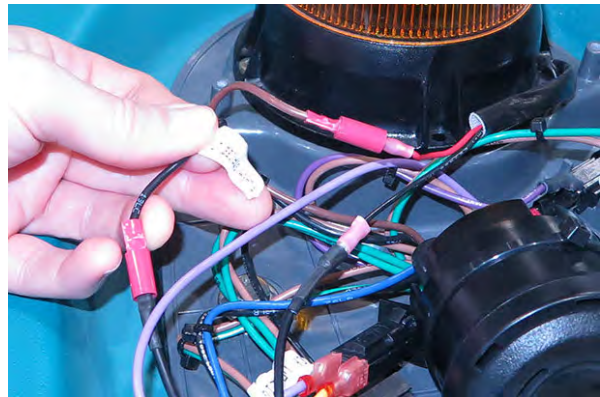
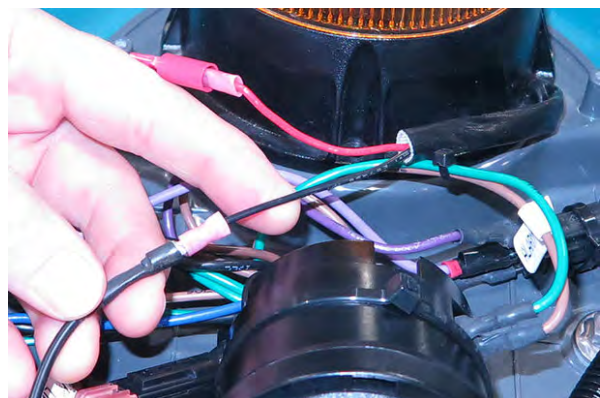
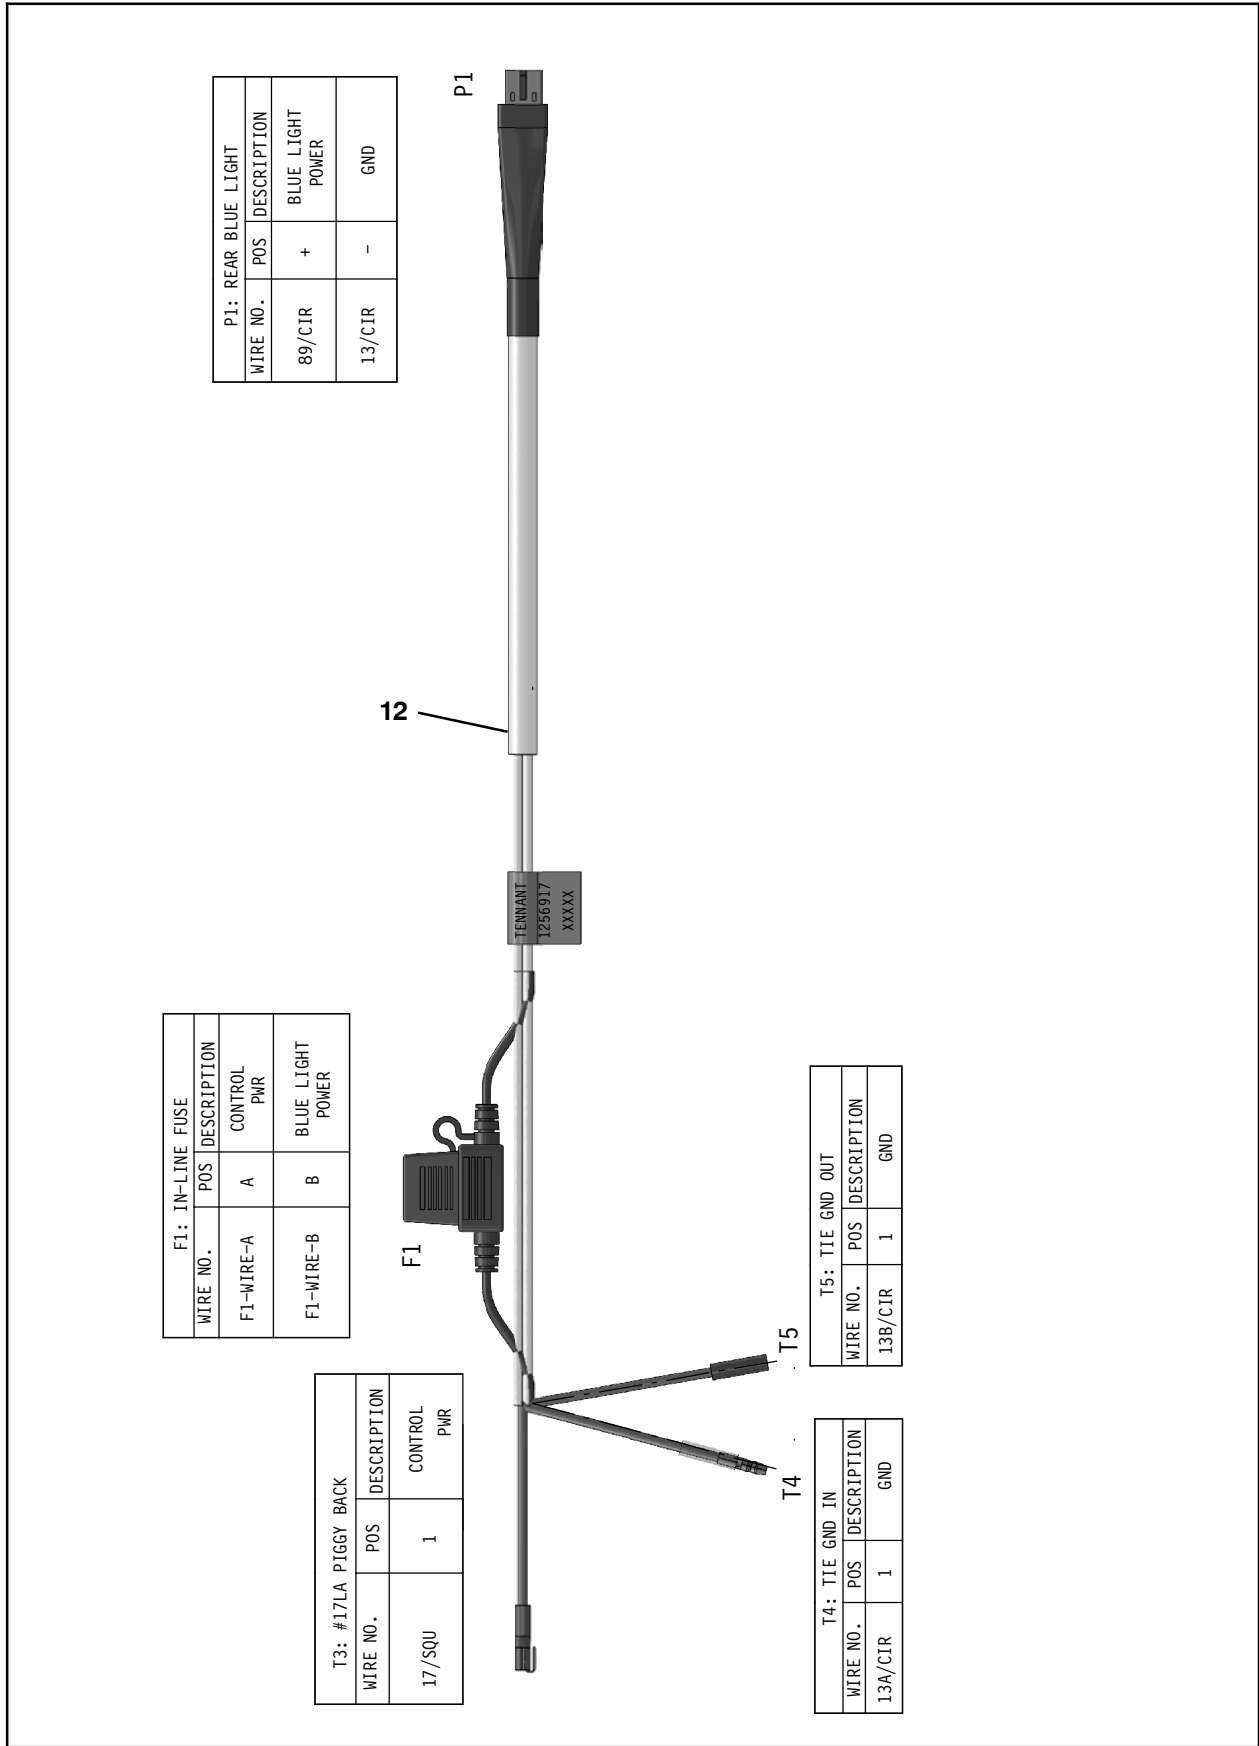

FIG. 20
FIG. 21
FIG. 22
50. Connect the blue spotlight rear harness (12) T2 lead to the location on the circuit breaker where 17/PUR was previously connected. (Fig. 19/Fig. 22)
51. Connect 17/PUR to the blue spotlight rear harness (12) T2 lead. (Fig. 19/Fig. 22)
52. Disconnect the 13/LC lead labeled FLASH/STROBE LT from the flashing light on the alarm/flashing light assembly. (Fig. 20)
53. Connect the blue spotlight rear harness (12) T4 lead to the 13/LC lead labeled FLASH/STROBE LT disconnected from the flashing light in the previous step. (Fig. 20/Fig. 22)
54. Connect the flashing light black lead previously disconnected from the 13/LC lead labeled FLASH/STROBE LT to the blue spotlight rear harness (12) T5 lead. (Fig. 21/Fig. 22)